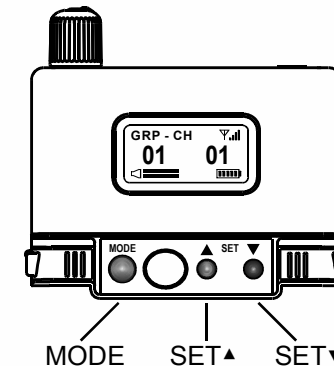

Fig. 9
- (A) When SET ▲ or SET ▼ button is pressed, the parameter blinks, then press SET ▲ or SET ▼ button to change the parameter. 5 seconds later or MODE button is pressed, blinking stops and the setting is automatically saved, Fig. 9.
- (B) SET▲ button: Press & release to increase.
- (C) SET▼ button: Press & release to decrease.